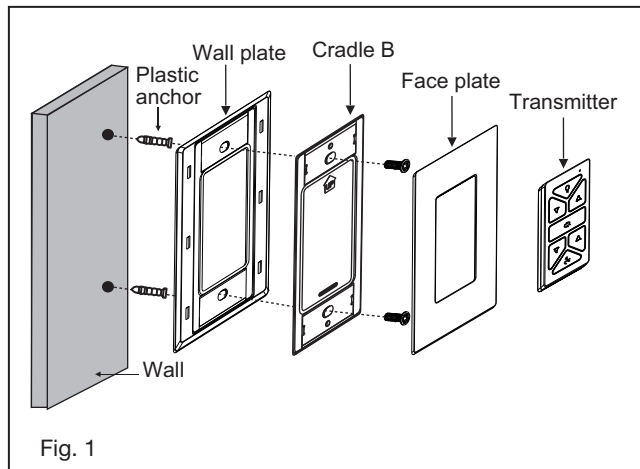

Fig. 1
- 1 Select a desired location. Use the wall plate to mark the location of the mounting holes. Plastic wall anchors or mounting screws are needed for this application. (Fig. 1)